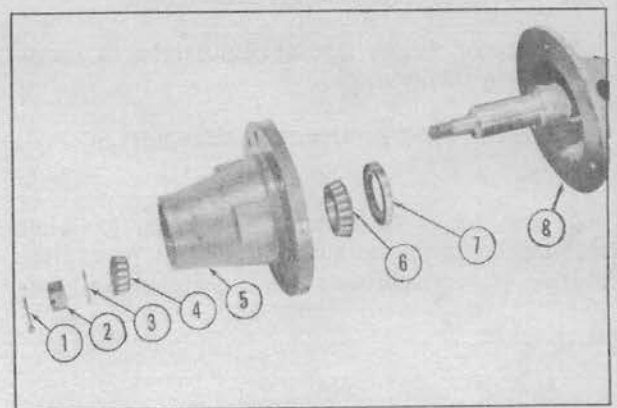

Fig. 16 - Wheel Bearings
5. Remove seal, No. 7, Fig. 16.
7. Install new seal No. 7, Fig. 16, if necessary.
11. Install washer No. 3 and nut No. 2, Fig. 16.